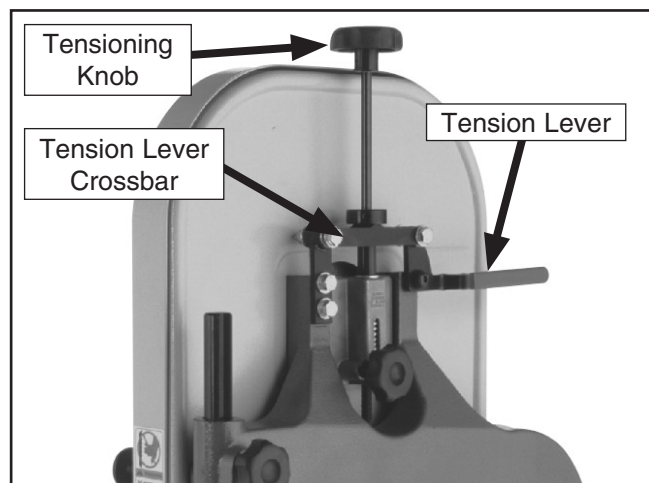

Figure 49. Blade tension controls/components.
2. Release the tension lever shown in **Figure 49** and remove the bandsaw blade.
5. Back the spacers away from the tension lever crossbar shown in **Figure 49**.
7. Pull up on the tensioning knob (**Figure 49**) until the blade touches the wheel.